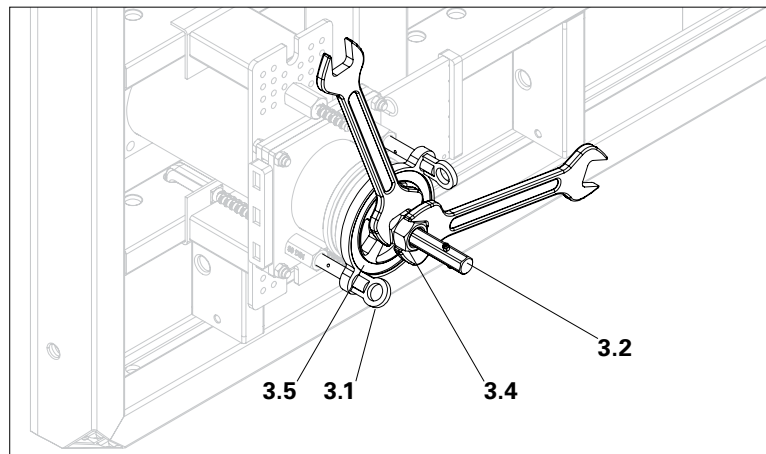

Fig. A.09
4. Position nut on the fixing board (3.5) and fix with counter nut (3.4). (Fig. A.09)